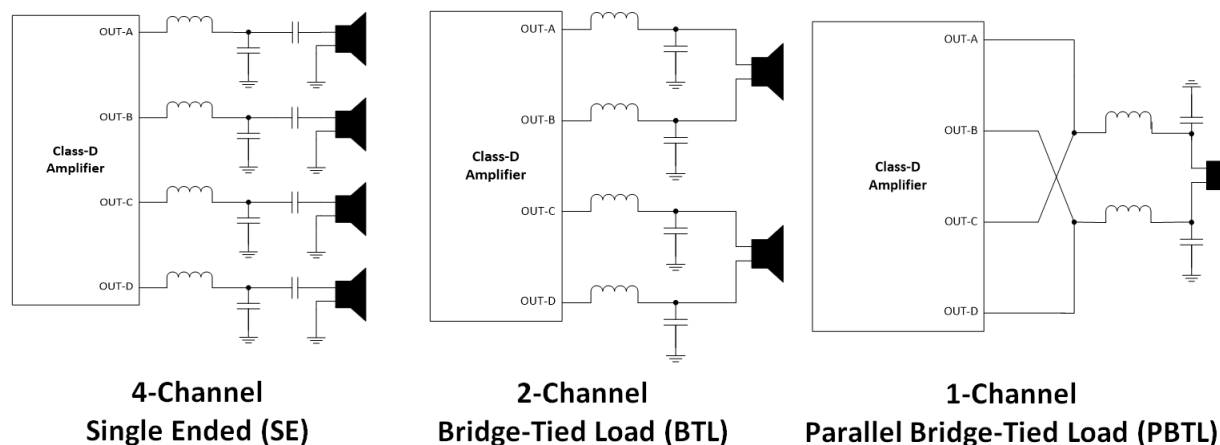

Figure 4-1. Various Output Configurations
Generally, a Class-D amplifier can be manipulated to provide different levels of power by topology. For example, a Class-D amplifier with four half-bridges can drive 4, 2 or even just 1 channel. These topologies are referred to as single-ended (SE), bridge-tied load (BTL), and parallel bridge-tied load (PBTL). Bridging two outputs effectively doubles the voltage across the load, while configuring them in parallel allows double the current. In theory, doubling the voltage and current in mode PBTL should quadruple the power, but since amplifiers have voltage and current limitations, running in PBTL typically only allows for more power into smaller loads. These output configurations can be seen in Figure 4-1. For more information on output configurations, visit section one of the LC Filter Design application note.